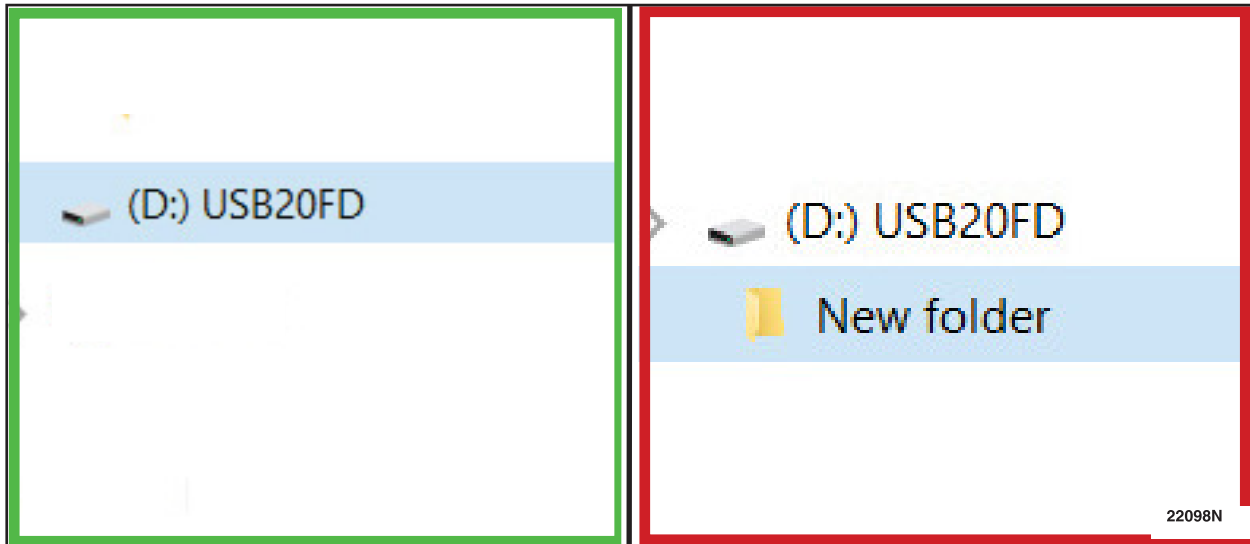

FIGURE 10
**NOTE:** Do not install the software update on a sub folder on the USB drive. See Figure 10.